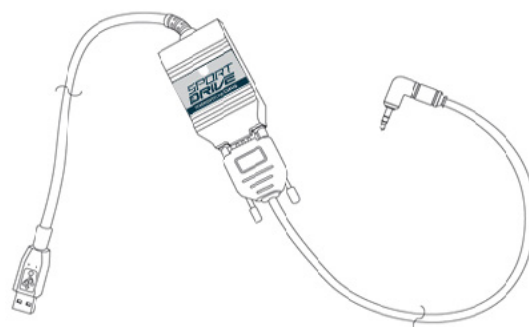

Figure 3.1 Diagnostics (PEAK)
- 1 Connect the diagnostics (PEAK) to the PC using the USB connector (Fig. 3.1).